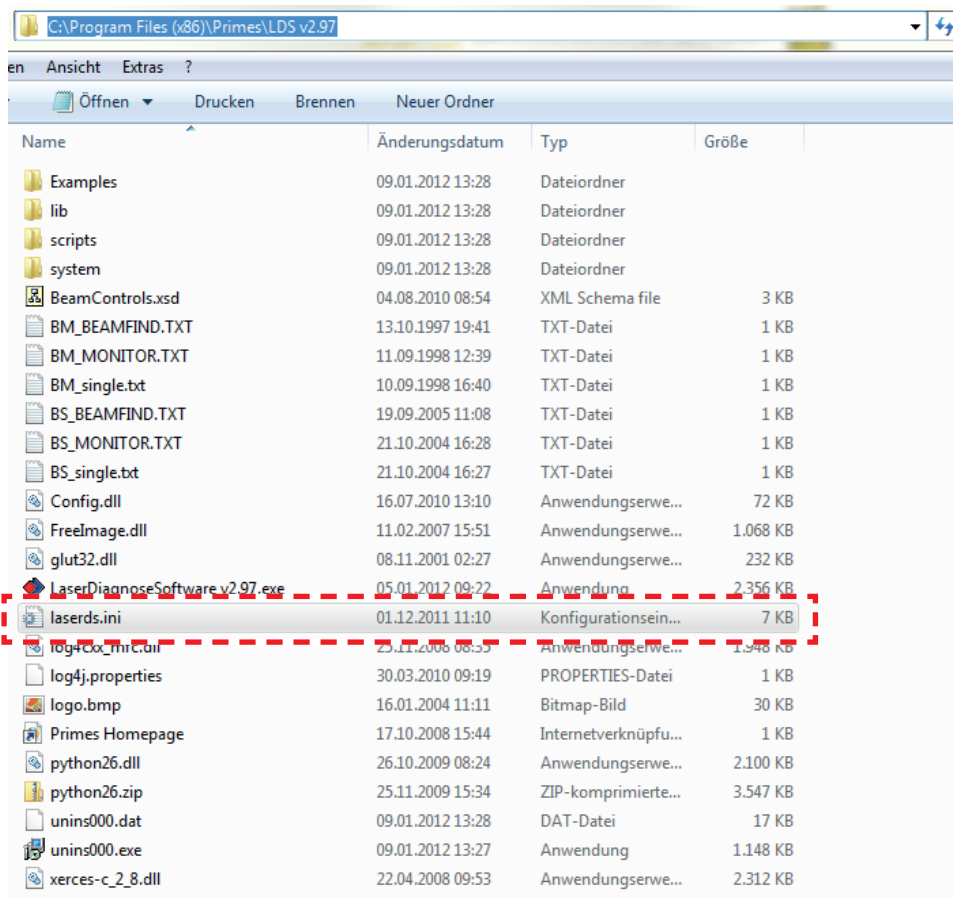

Fig. 21.24: File Laserds.ini
2. Open the **laserds.ini** file (marked file in Fig. 21.24) with an editor.